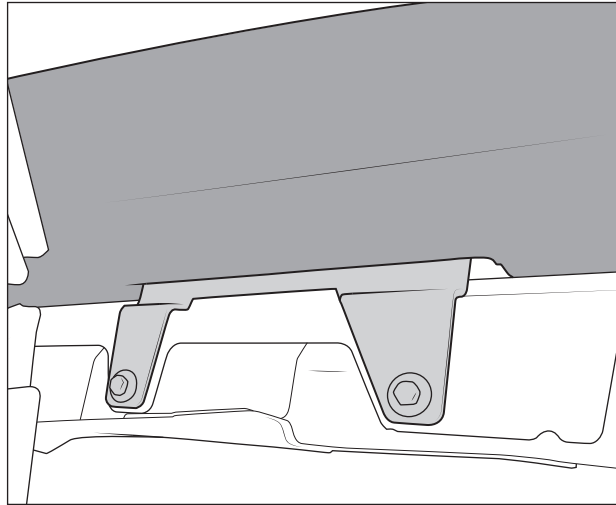

Figure 11
5. Loosely install two rear fender bolts into large snorkel bracket and tighten until just snug enough to hold snorkel body in place (fig. 11).